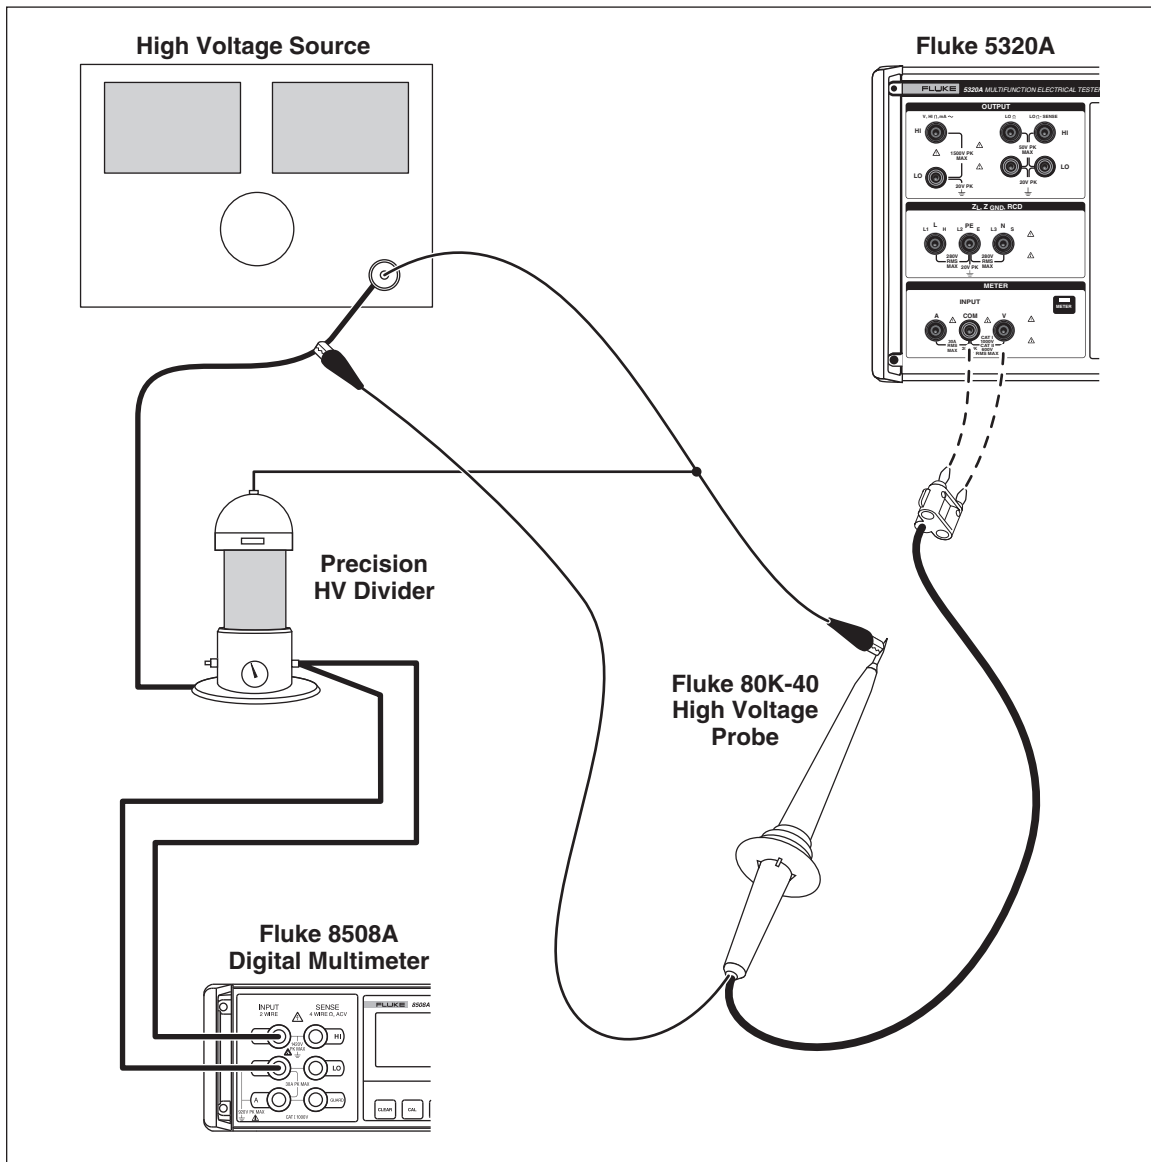

Figure 6-11. High Voltage Divider Calibration Connection
7. Connect the HV source to the high voltage divider as shown in Figure 6-11.